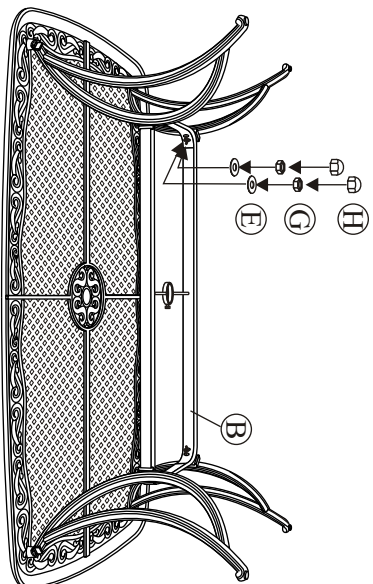

Fig. 2
Step 3: Attach a leg to the leg connector bracket by carefully guiding the bolts already in place on the table legs (each leg has two bolts) through the holes in the leg connector bracket. Add a washer and a nut to the end of each bolt as shown in Fig. 2. **Hand tighten only. Do not tighten completely.** Repeat on the other three legs.
Attach a leg to the leg connector bracket by carefully guiding the bolts already in place on the table legs (each leg has two bolts) through the holes in the leg connector bracket. Add a washer and a nut to the end of each bolt as shown in Fig. 2. **Hand tighten only.** Repeat on the other three legs.